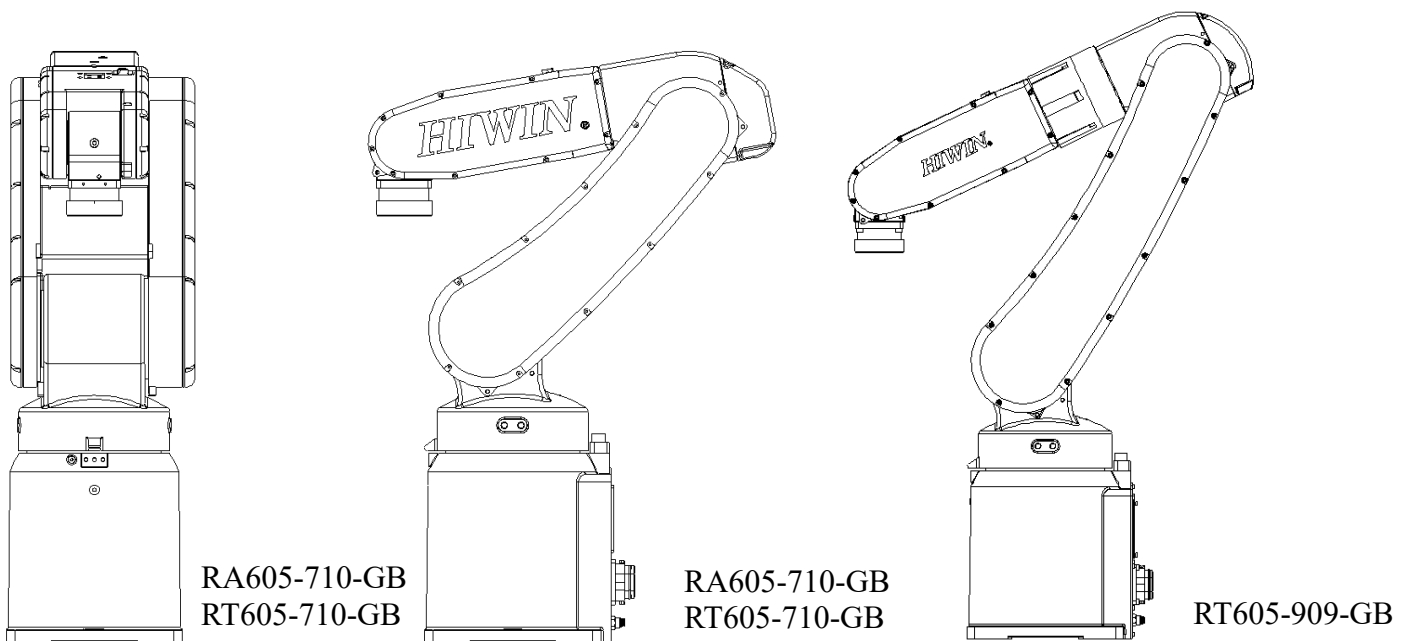

Figure 1-1 Transport posture
Step1. Move the robot into its transport posture and the angle of each joint is shown in the table of Figure 1-1.